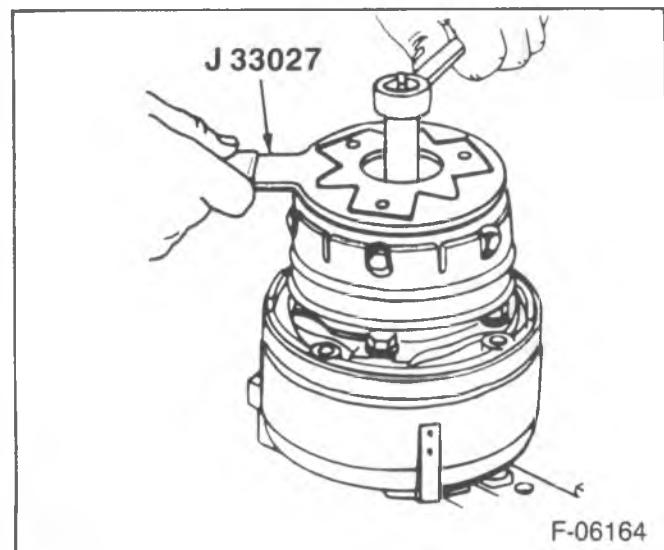

Figure 6—Removing the Shaft Nut
- Mount J 25008-A in a vise (figure 6).
- 1. Shaft nut with J 9399 (figure 6).